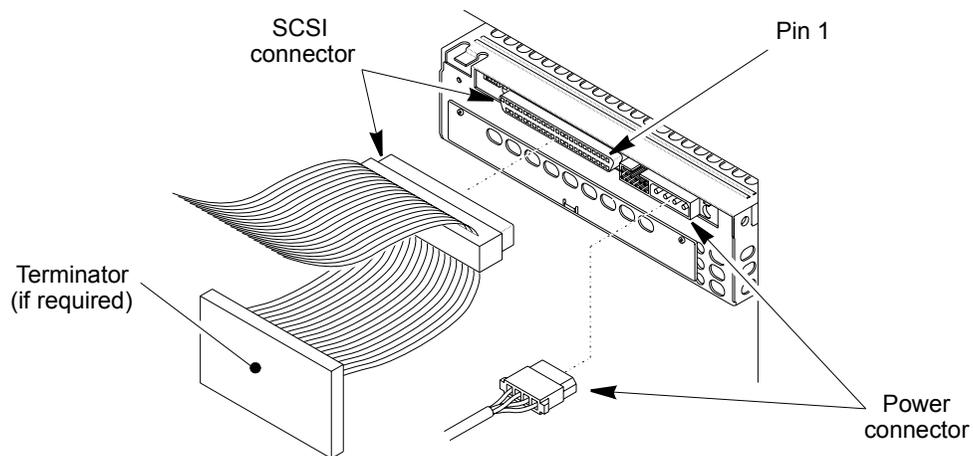

Figure 2-7 Connecting the SCSI and power cables to the back of the tape drive (shown with terminator installed)
1. Connect the internal SCSI cable to the tape drive's SCSI connector, as shown in Figure 2-7.
3. If the tape drive is the last device on the SCSI bus, terminate the bus by installing a pass-through terminator on the tape drive's SCSI connector, as shown in Figure 2-7. Or, if there is an unused connector at the end of the SCSI cable, you can terminate the bus there.
2. Connect the enclosure's power cable to the tape drive's power connector, shown in Figure 2-7.